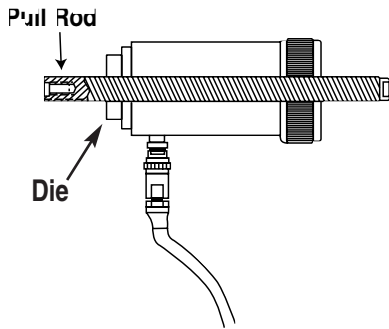

Figure 6
3. Select the punch set needed. Slide the die over the pull rod (Figure 6).